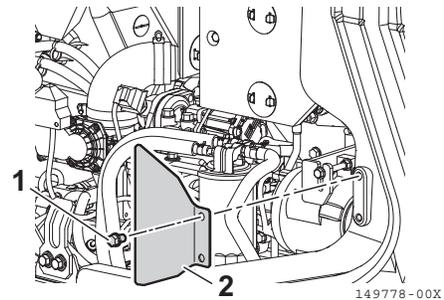

Fig. 8-52
2. Remove the two bolts (**Fig. 8-52, 1**) and guard (**Fig. 8-52, 2**).
9. When no abnormality is found on the belts and pulleys, reinstall the guard (Fig. 8-52, 2) and close the rear hood.